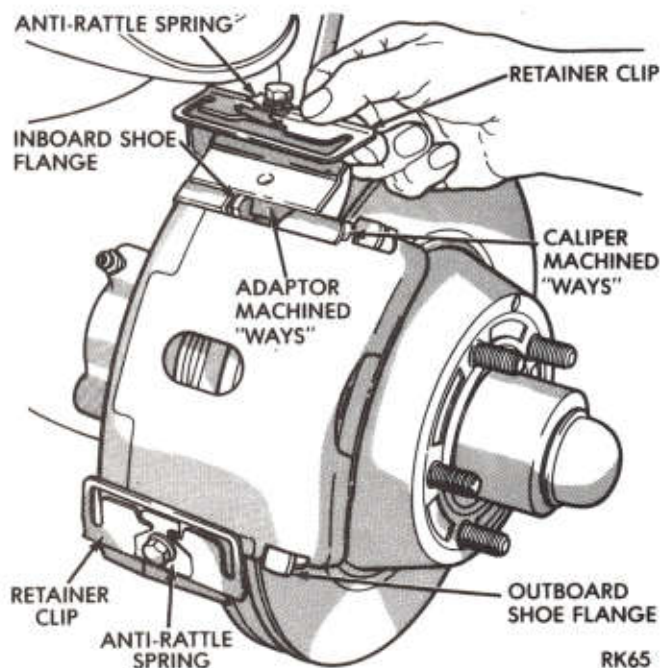

Fig. 3—Adapter and Caliper Machined "Ways" and Caliper Retention
Two machined abutments on the adaptor position and align the caliper. The retaining clips retain the caliper in the machined guides or "ways" on the adaptor and allow lateral movement of the caliper (Fig. 3).
As the brake pedal is depressed, hydraulic pressure is applied against the piston. This force is transmitted to the inboard brake shoe and lining and the inboard braking surface of the disc. As force increases against the disc from the inner lining, the caliper assembly moves inboard, sliding on the machined adaptor "ways" (Fig. 3), thus providing a clamping force on the disc.
- (1) Raise vehicle on a hoist or jackstands.
- (2) Remove front wheel covers, and wheel and tire assemblies.
- (3) Remove caliper retaining clips and anti-rattle springs (Fig. 3).